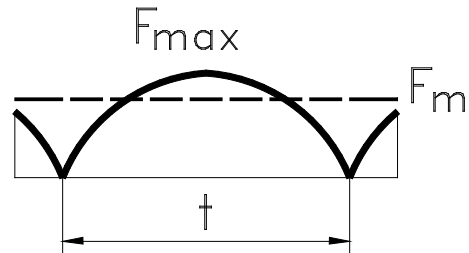

Fig. 6.3
- a) the magnitude of load returns to zero and peaks in the next phase again (fig. 6.3).